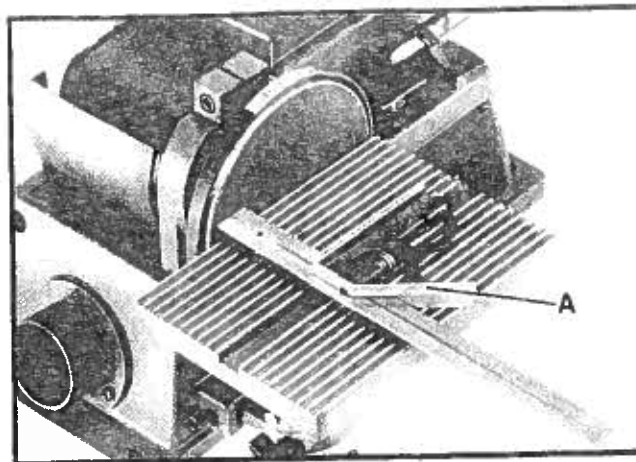

Fig. 32
2. Using a combination square (A) in the miter gage slot, check the distance from the slot to each end of the sanding disc, as shown in Figs. 32 and 33. This distance should be the same.